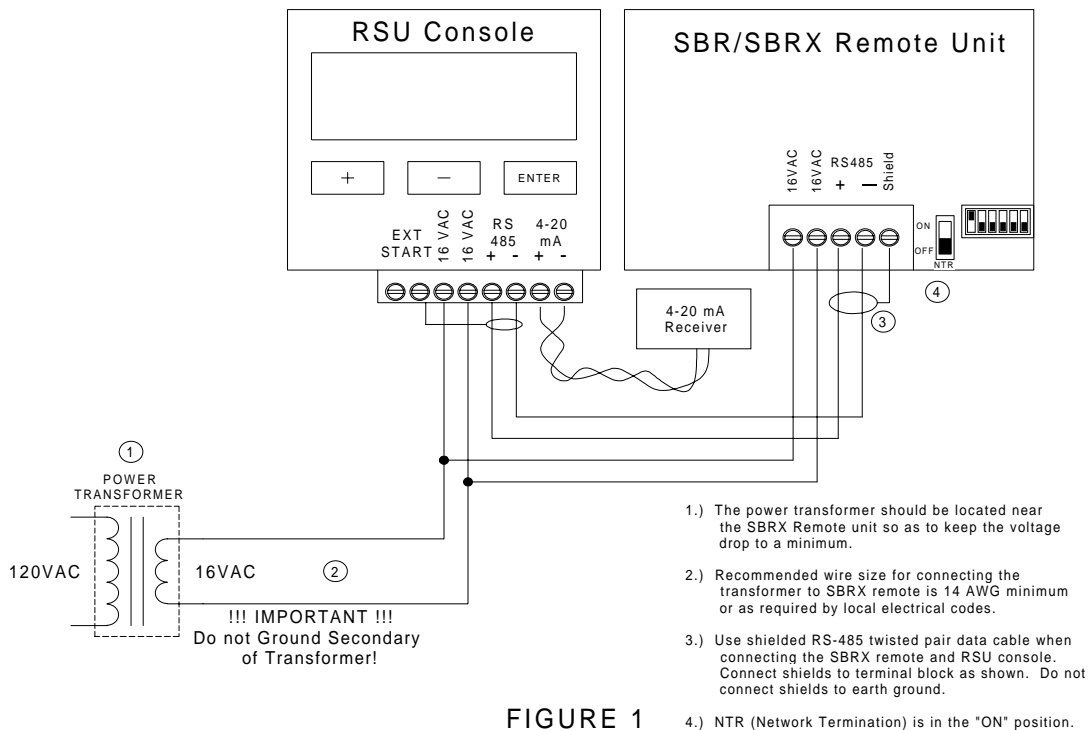
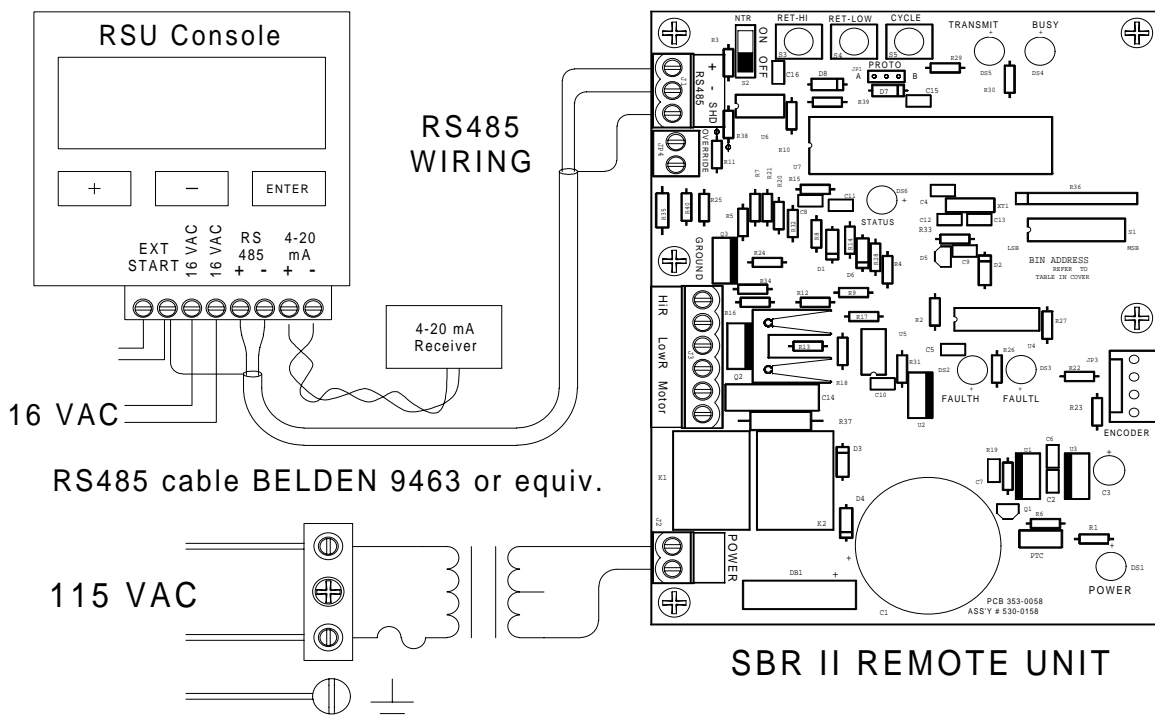

FIGURE 1
FIGURE 2
The RSU requires a 16VAC-power connection, such as wall transformer P/N 388-0039, an RS-485 data connection, and an external start input. A 4-20mA current loop is also an available output to use. The wiring diagram is located directly below the pluggable terminal block on the RSU. Refer to Figure 1 on the last page on this manual for the interconnect wiring connections. The 16VAC power wires should be installed according to all local and/or national electrical codes. The recommended wire size for the power connection is 14 or 18 gauge wire. The RSU communicates with the *SmartBob* remote via the RS-485 cable. This cable must be a good quality twisted pair with a shield. The shield must be connected to the (-) negative terminal of the 4-20mA loop. The maximum length for the RS-485 cable is 4000 feet. Please verify the polarity of the RS-485 wires during installation. The system will not work if RS-485 wires are reversed. The RSU will only communicate with one *SmartBob* remote; therefore, the *SmartBob*'s address must be set to one (1). This is the factory default for the *SmartBob*. Refer to the *SmartBob*'s manual on changing the bin address. The external start input is a dry contact closure e.g. a push button switch or PLC contacts. A good quality twisted pair wire is recommended. The 4-20mA output from the RSU provides a method to interface to a PLC or DCS. The maximum 4-20mA-loop resistance is **750 Ω (Ohms)**. If this maximum resistance is exceeding the loop fault indicator will light. The 4-20mA output is not valid when loop fault is lit. Figure 1 on the following page illustrates how an RSU is connected to an SBR or SBRX remote unit. Figure 2 illustrated how an RSU is connected to an SBRII remote unit.